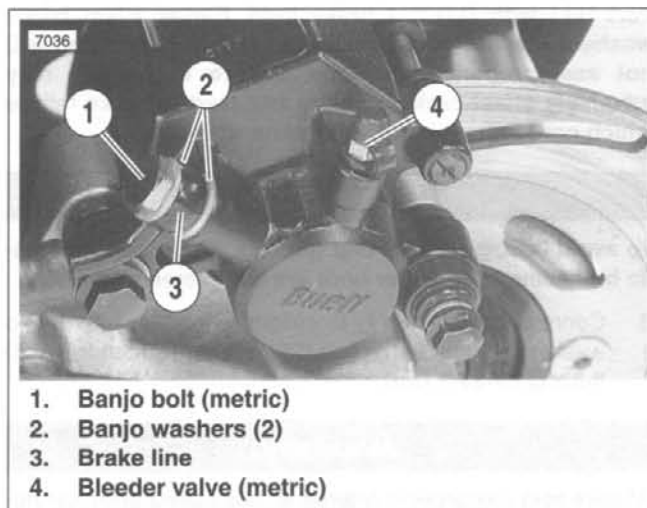

Figure 2-88. Rear Brake Caliper Banjo Bolt
10. See Figure 2-88. Remove rear brake caliper banjo bolt and two banjo washers. Discard banjo washers.